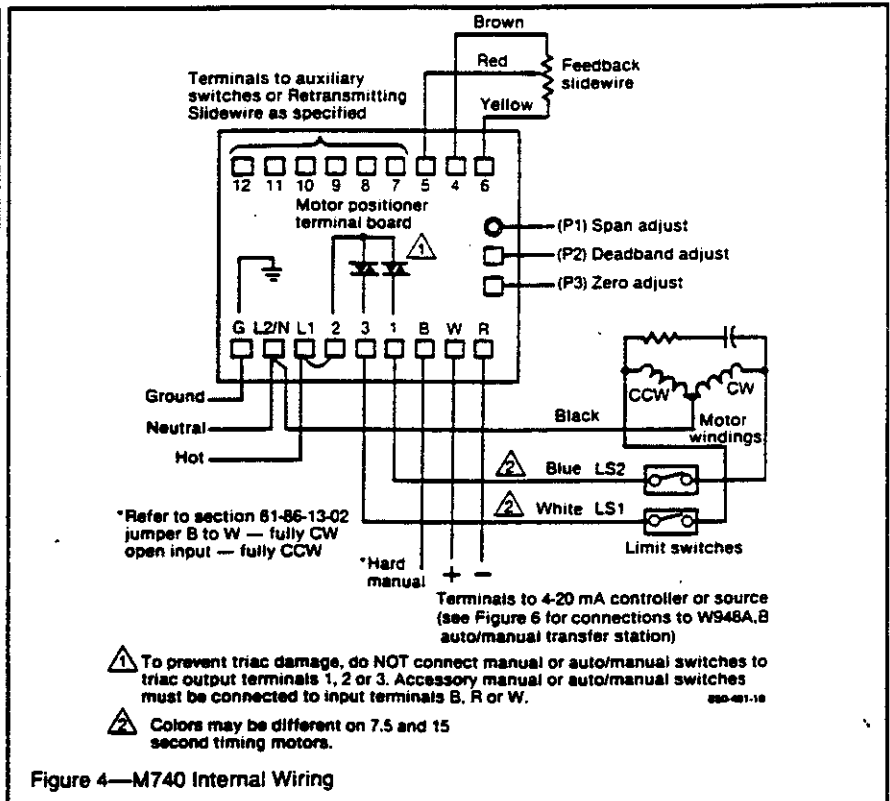

Figure 4—M740 Internal Wiring
Refer to Figures 4 and 5. When the temperature at the sensor is above the proportional range of the proportioning controller, the controller will transmit a signal of less than 4 ma. The motor positioner circuit will drive the motor to its counterclockwise limit. Limit switch LS1 opens and for model M740B, the lifter shaft is down. The wiper on the motor balancing slidewire is at the extreme ccw position. For a heating application the motor is closed. When the temperature of the sensor falls into the range of the controller, the controller will transmit a signal within its operating span (4-20 mA). The bridge in the motor positioner becomes unbalanced causing the clockwise (cw) motor coils to energize through limit switch LS2. The motor shaft starts to rotate cw (motor opening, and for the model M740B the lifter shaft moving up), limit switch LS1 closes, and the wiper on the motor balancing slidewire starts to move. The motor shaft and balancing slidewire wiper continue to rotate until the bridge in the Motor Positioner is rebalanced. When the bridge becomes balanced, a neutral position is assumed through the effect of the amplifier. The motor is de-energized and stops with the motor shaft and slidewire wiper in a position proportional to the existing load demand at the temperature sensor.
3. The stroke of the reversible model M640A motor is changed by inserting a screwdriver into one of the slots on the cam and applying slight bias force. Figure 4 illustrates a screwdriver in one of these slots. This view shows changing a wiper cam, but the same principle applies for the limit switch cams which are the two innermost cams on the motor shaft.